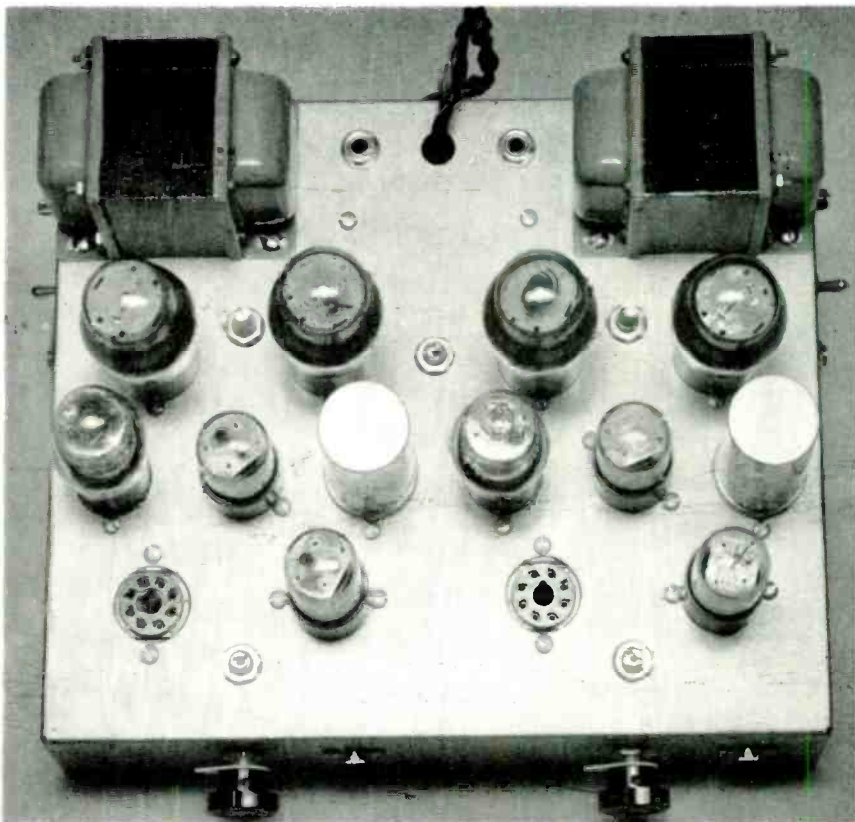
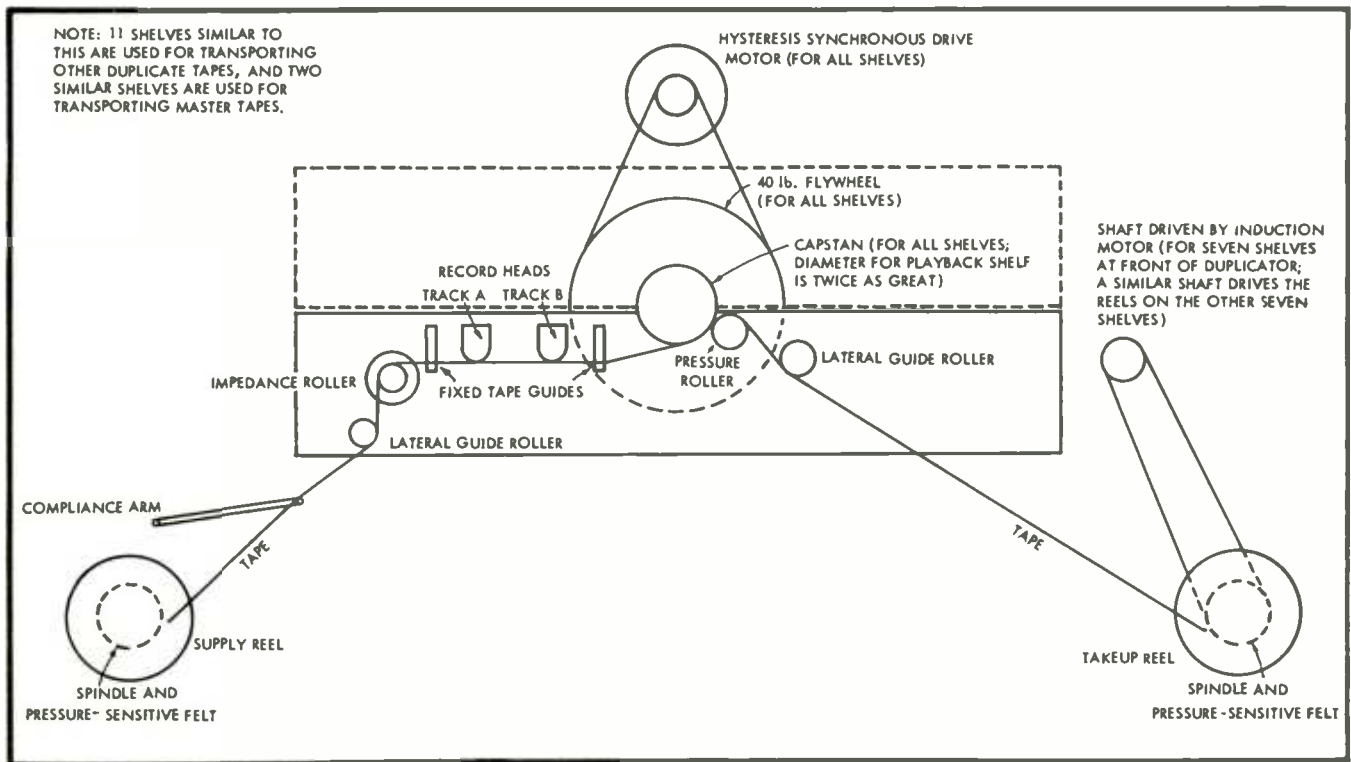

Fig. 4. Top view of the amplifier chassis. The jacks at the rear are for the outputs, while power is fed to preamps from octal sockets toward the front.
Fig. 5. Diagram of one record shelf of the duplicator transport mechanism.
Much credit for the high performance-vs.-cost ratio of the amplifier must go to Triad's Model S-35A output transformer. In this circuit the transformer holds up remarkably well, down to 20 cps and costs about half of what you might normally expect to pay for these results. Figure 4 shows the chassis layout and Fig. 5 shows the underside wiring.
*Figure 5* is a plan view of one of the twelve shelves used for recording a duplicate tape. Essentially the same arrangement is used for either master tape with the exception that the capstan diameter is twice as great and that only a single head, in this case a playback head, is used.